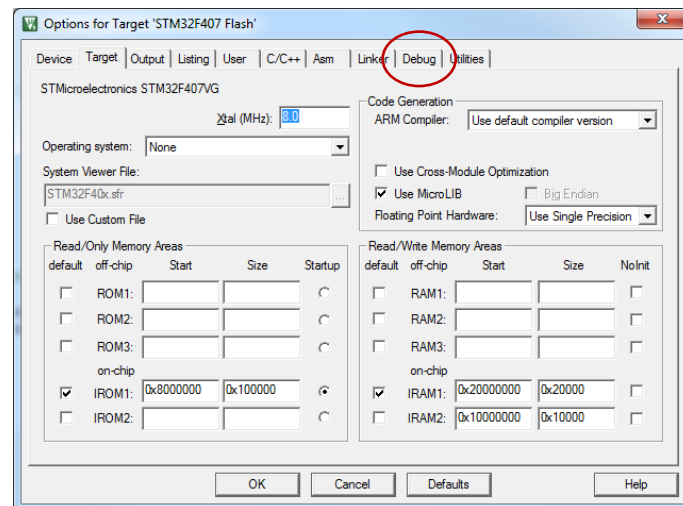

Figure 8a Settings Window
- Click the  button to open the settings window (shown in Figure 8a).